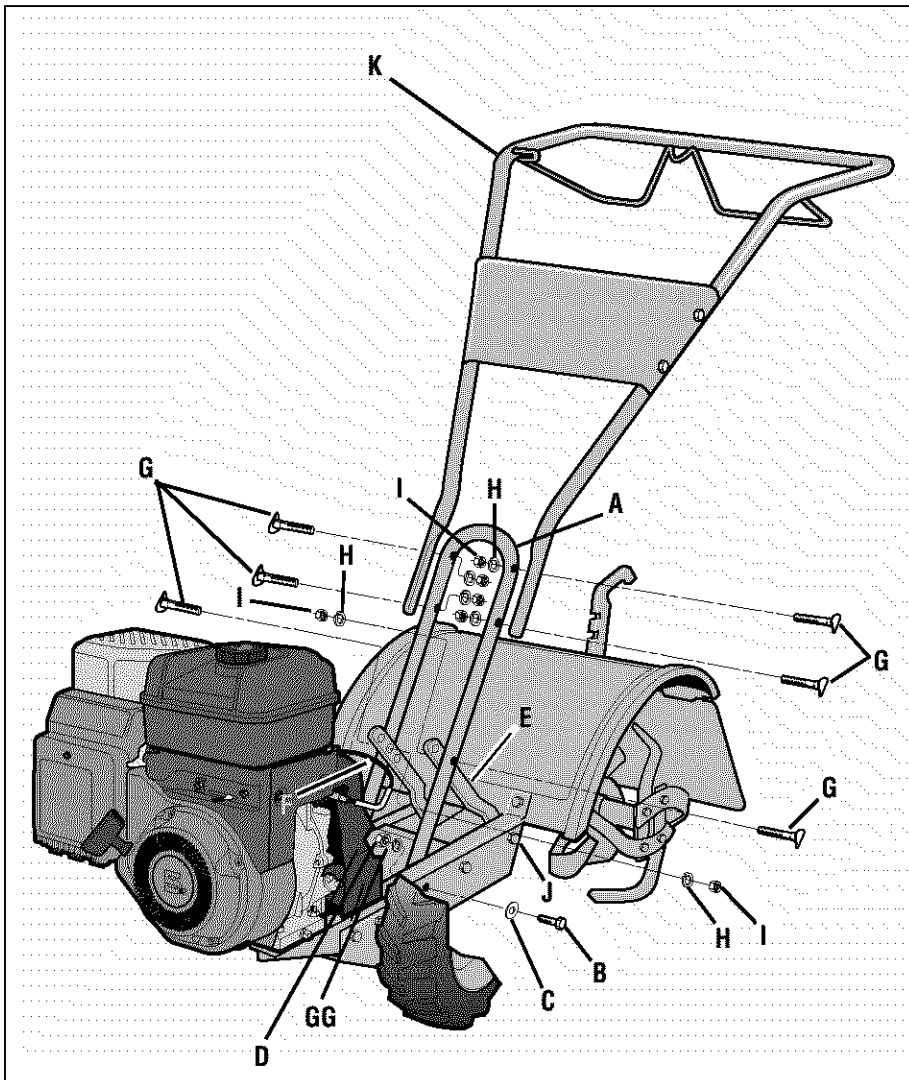

Fig. 2.2: Attach handlebar.
1	Handlebar Support (see A, Fig. 2-2)
1	Handlebar Assembly (see K, Fig. 2-2)
1. Loosely attach the legs of the handlebar support (A, Fig. 2-2) to the inner sides of the tiller frame using two 3/8"-16 x 3/4" hex hd. screws (B), 3/8" flat washers (C), 3/8" lock washers (GG) and 3/8"-16 hex lock-nuts (D).
2. There are three height adjustment holes in the two handlebar support brackets (E and F, Fig. 2-2). Use a setting that will position the handlebars at approximately waist level when the tines are 3"-4" into the soil. Loosely attach the support brackets to the handlebar support (A) using two 5/16"-18 x 1-1/2" screws (G), 5/16" split lockwashers (H) and 5/16"-18 hex nuts (I). **NOTE:** If a support bracket will not move, loosen attaching screw (J) and nut.
3. Attach the handlebar assembly (K) to the handlebar support (A) using four 5/16"-18 x 1-1/2" screws (G), 5/16" split lockwashers (H) and 5/16"-18 hex nuts (I). Tighten the four screws securely.